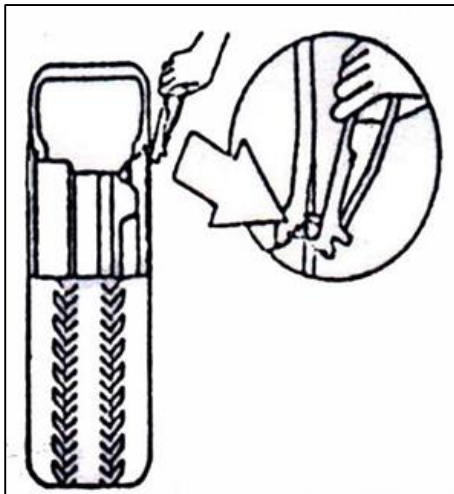

Fig. 17
4.1.1 Deflate the tire completely by pulling out the valve stem and/or core. Use a special tool (Wheel Balancer Hammer) to remove balance weights from the rim (Fig. 17).